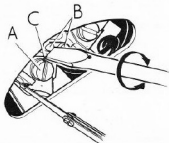

FIG. B19. Setting points gap.
To set the contact breaker gap, the flywheel should be placed in the position shown in Fig. B20, this will open the points to their fullest extent. Now proceed as follows: slacken fixing screw (A) Fig. B19, half a turn and insert a screwdriver blade between notches (B) on the base plate and opening (C) in the fixed contact. Twisting the screwdriver will alter the gap.